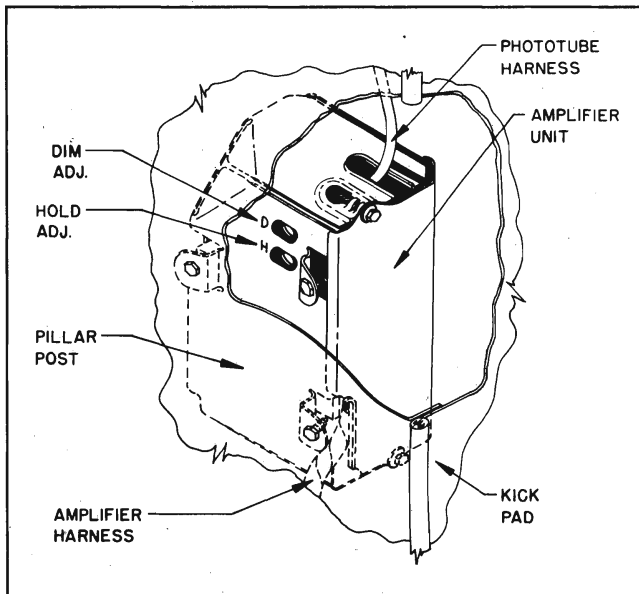

Fig. 12-16 Dim and Hold—Adjustment Screw Location
3. Turn tester intensity control clockwise slowly just to point where headlamps switch to lower beam. The meter pointer should now read in the black dim sensitivity range on the meter scale (Fig. 12-16). If not, proceed to "hold" sensitivity adjustment on car.
1. Rotate amplifier dim control completely counterclockwise (Fig. 12-16).